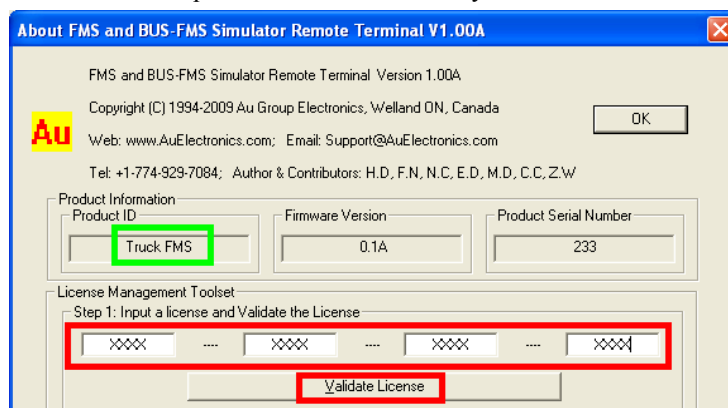

Figure B-3
4. "About FMS and BUS-FMS Simulator Remote Terminal V1.00A" window show up (Figure B-3). Enter a validate license code in the license management toolset, and then click "Validate license" button.